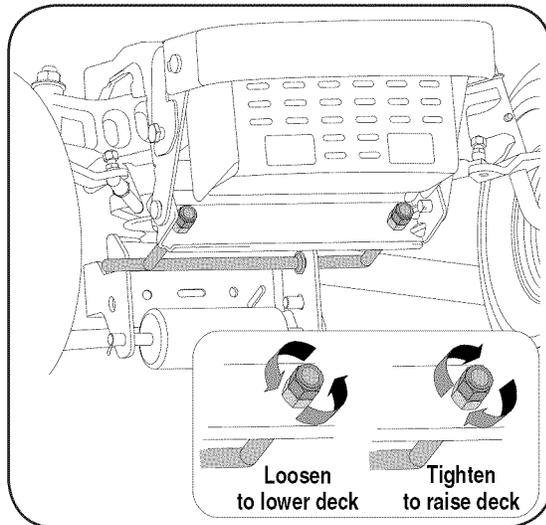

Figure 5-1
3. From the front of the tractor, loosen the outermost hex lock nut on the end of each deck hanger rod. See Fig. 5-1.
4. Tighten each inner hex nut front against the front hanger bracket to raise the front of the deck; loosen each hex nut to lower the front of the deck. See Fig. 5-1.